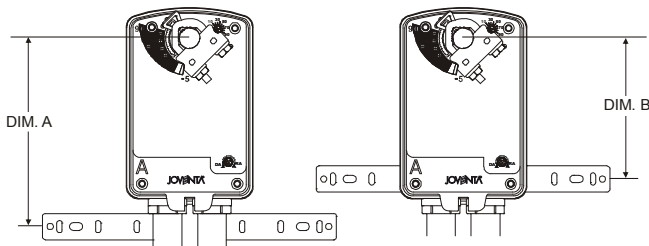

Figure 4: Positioning the Anti-Rotation Bracket
1. See the dimensions in Figure 4 and Table 1 to ensure the correct positioning of the anti rotation bracket.
3. Mark or drill mounting holes in the damper frame or duct using the anti-rotation bracket as a guide (based on the measurements obtained in Table 1 and Figure 4).